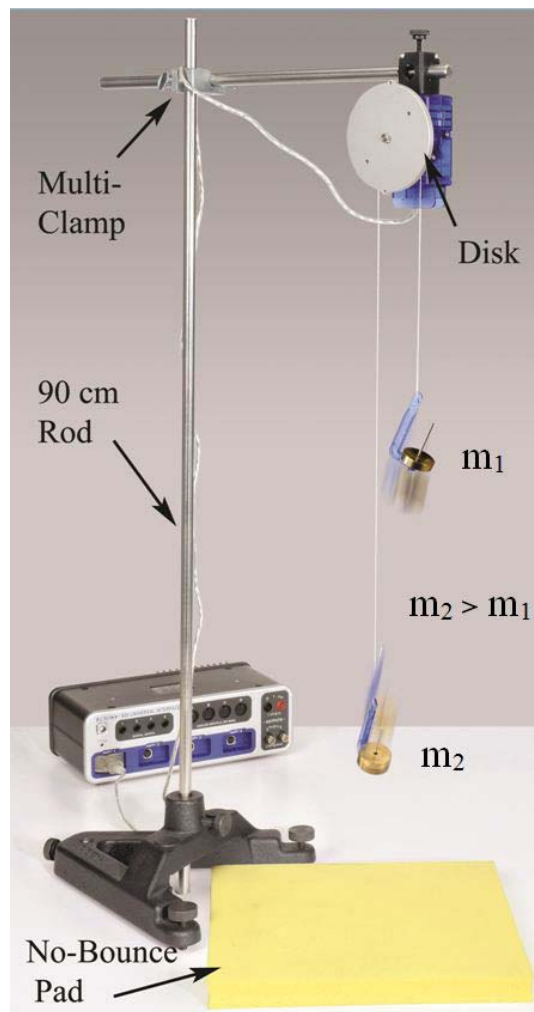

Figure 1: Modified Atwood's Machine
This lab investigates the potential energies for a modified Atwood's Machine (see Fig. 1), where a disk has been added to the Rotary Motion Sensor pulley.
1. Use the large rod base as shown in Figure 1 with the 90 cm rod, the 45 cm rod, and the multi-clamp.